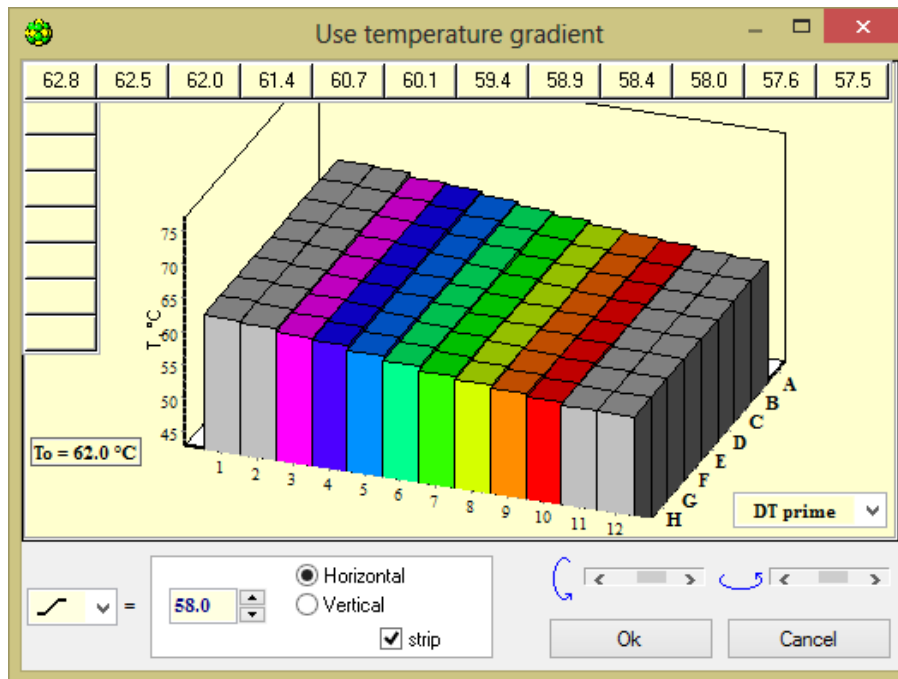

Fig.39 Horizontal gradient with the option "strip"
4. To enter a gradient in the  =  windows select a gradient symbol  and enter the temperature of the front edge of the matrix when selecting a vertical gradient, or the right edge of the matrix when selecting a horizontal gradient (Fig.39, 40).
If you select horizontal gradient, the option strip can be set, using in this case the field of the 8x8 matrix with improved linearity of the gradient (the colored area on Fig.39).